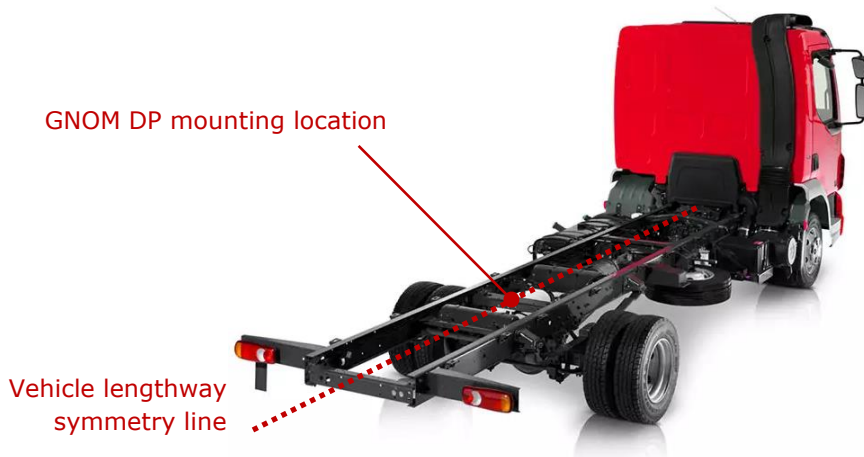

Figure 17 — Selection for GNOM DP mounting location for monitoring the Vehicle axle load
1) The location for mounting GNOM DP sensor is to be selected along the Vehicle lengthway symmetry line, between the wheels of the axle which is to be monitored, in the centre of the Vehicle frame cross bar (see figure 17).